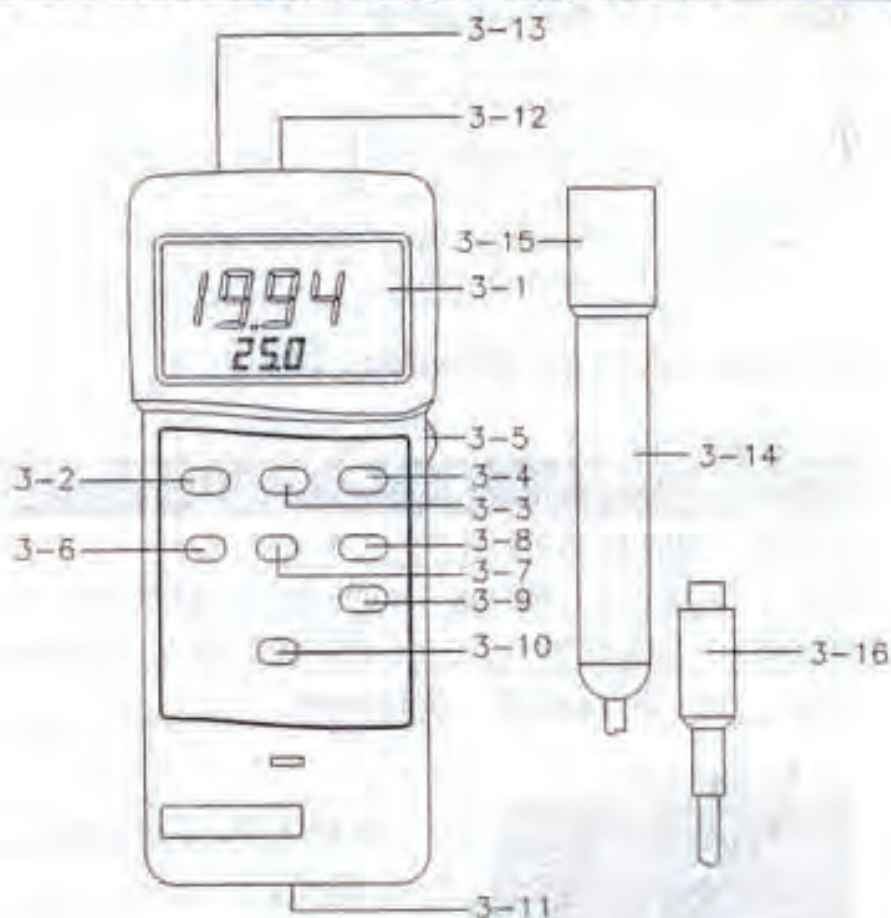

Fig. 1
- (1) Push the "Power Off/On Button"(3-2, Fig. 1) to power the instrument.
- (2) The instrument will default to 2% per °C Temperature Compensation factor. The meter has built-in Automatic Temperature Compensation adjustable between 0 to 5% per °C.
- a. Push the "Temp. Compensation Button"(3-10, Fig.1) ,the display will show
- b. Push the "Factor Adjust Button"(3-8, Fig. 1) to select the desired compensation factor. The value will increment in steps of 0.1 % per °C.
- c. Once the desired value is reached, push the "Temp. Compensation Button"(3-10, Fig. 1) to set the new value.
- (3) Select the applicable range, using the "Range Select Button"(3-9, Fig. 1).
- (4) Immerse the "Conductivity Electrode "(3-15, Fig. 1) into the solution, up to the immersion level.
- (5) During the measurement, the lower LCD Display will show the temperature of the solution.
** Push the "°C/°F Button"(3-4, Fig. 1) to change the temperature display unit from "°C to °F" or "°F to °C".*
- * During measurement, pushing the "Data Hold Button"(3-3, Fig. 1) will hold the display values & the LCD will show the "D.H" symbol.
- * The DATA RECORD function displays the maximum, minimum and average readings. To start the DATA RECORD function, press the "Record Button"(3-6, Fig. 1) once. "REC" symbol will appear on the LCD display.
- (a) Push the "CALL Button"(3-7, Fig. 1) once, then the "Max" symbol with the maximum values recorded will appear on the LCD display.
- (d) To de-activate the Data Record function, Press the "Record Button" (3-6, Fig. 1) once again. All associated annunciators will disappear from the display.
To de-activate this feature, Select the memory record function during measurement, by pressing the "RECORD" button(3-6, Fig.1).
This is achieved by controlling the "LCD Contrast Adjust" pot (3-5, fig. 1).
- (1) Prepare a " 1.413 mS Calibration Solution ".
- (2) Slide the " Range Select Switch "(3-9, Fig. 1) to "2 mS" position.
- (3) Immerse the " Conductivity Electrode "(3-5, Fig. 1) into the solution up to the immersion level.
The instrument features an RS232 output via 3.5 mm Terminal (3-13, Fig. 1).
- (1) When the left corner of LCD display show "LBT", it is necessary to replace the battery. However, in-spec measurement may still be made for several hours after low battery indicator appears before the instrument become inaccurate.
- (2) Slide the Battery Cover(3-11, Fig. 1) away from the instrument and remove the battery.
- (3) Install a 9V battery(heavy duty type) and replace the